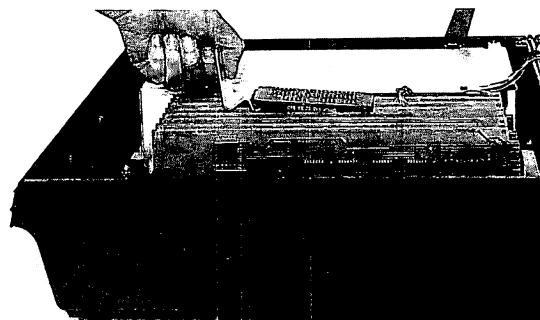

Figure 7-7. Top Plane Assembly Removal
- Insert connector removal tool under the Top Plane Assembly which connects the display PCA's together (see figure 7-2) as shown in figure 7-7.